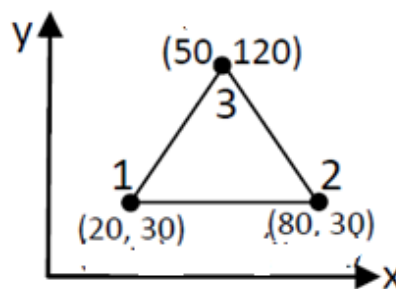

Figure 2
5. Determine the stiffness matrix for the constant strain triangular (CST) element shown in the figure 2. The coordinates are given in units of millimetres. Assume plane stress conditions. Take $E = 200 \text{ GPa}$; Poisson's ratio (ν) = 0.3; Thickness (t) = 10 mm. [15]